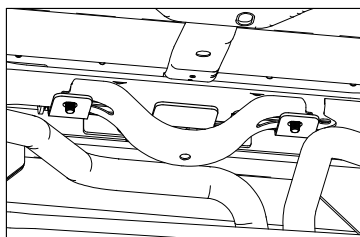
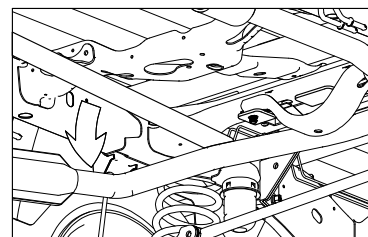

FIGURE F4: View under bed looking from floor to area above axle.
FIGURE F5: View under bed looking from floor to area above driver side exhaust pipe.
3. **Install the rear Brace.** Position the two large slots over the 5/8" bolts of the bolt guides, see Figure F4. Attach the rear brace to the center section and the rear cross member with two 1/2" x 1-1/2" long bolts, lock washers and flat washers. Hand tighten only at this time. Using the 5/8" flange nuts, attach the rear brace to the frame cross member with the bolt guides. If the truck is equipped with dual exhaust, it may be helpful to pry the exhaust downward while installing the flange nut on the driver side bolt guide, see Figure F5.